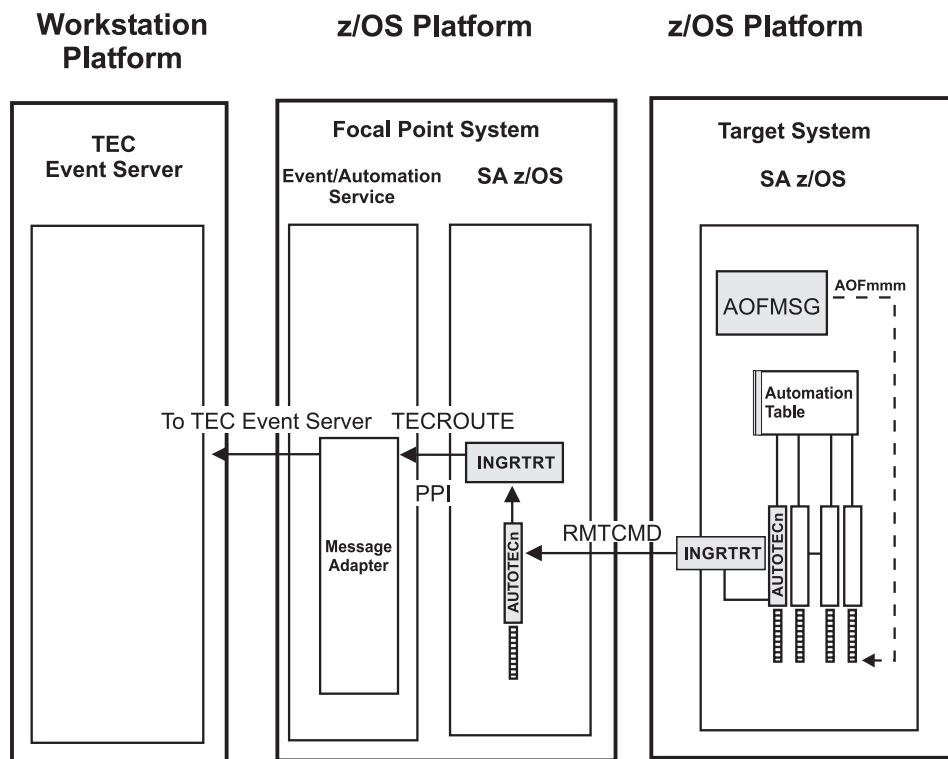

Figure 8. Distributed Configuration: NetView Event/Automation Service Remote to the SA z/OS Source of Messages
- distributed configuration:** The message adapter or alert adapter is running on an z/OS system different from the one on which SA z/OS is running and issuing messages and alerts. In this scenario, the z/OS system running the adapters must be the SA z/OS automation focal point system. Such a configuration for message forwarding is illustrated in Figure 8 on page 43.